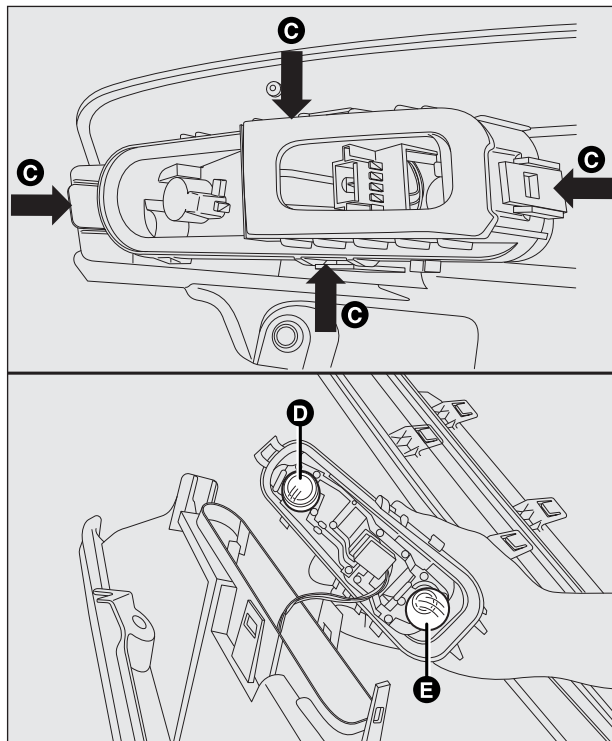

fig. 175
- unhook the bulb holder by unclipping the fasteners C-fig. 175;